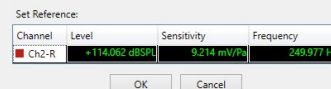

Figure 25. Ear simulator calibration prompt.
- Prompt sequence steps in Signal Path Setup to calibrate the left and right ear simulators (Figure 25).